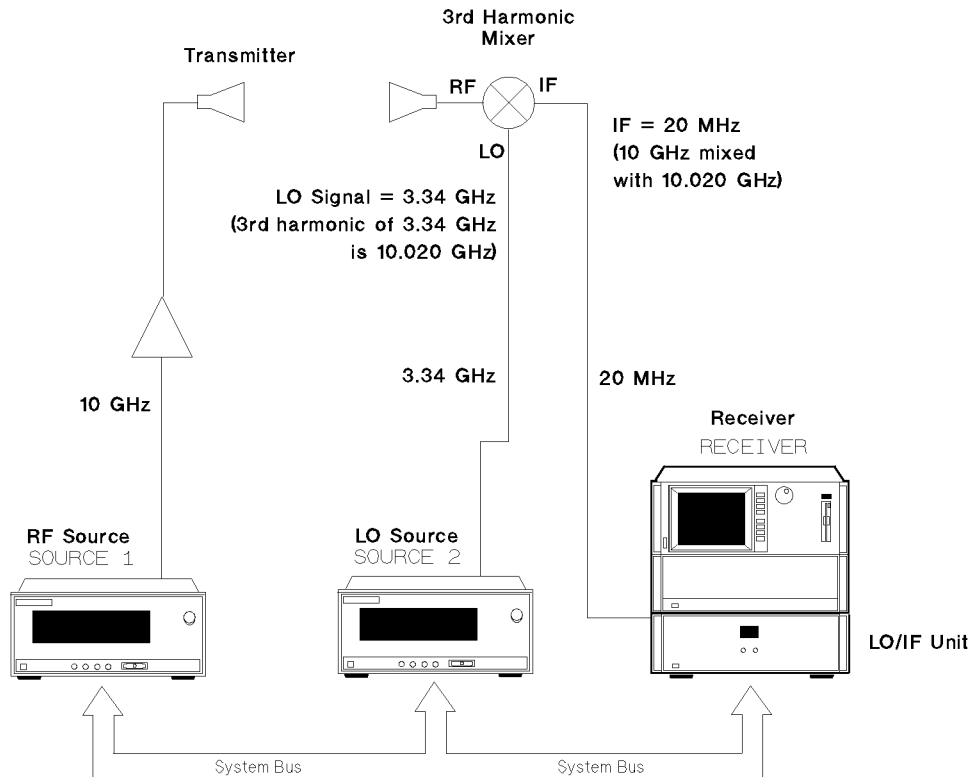
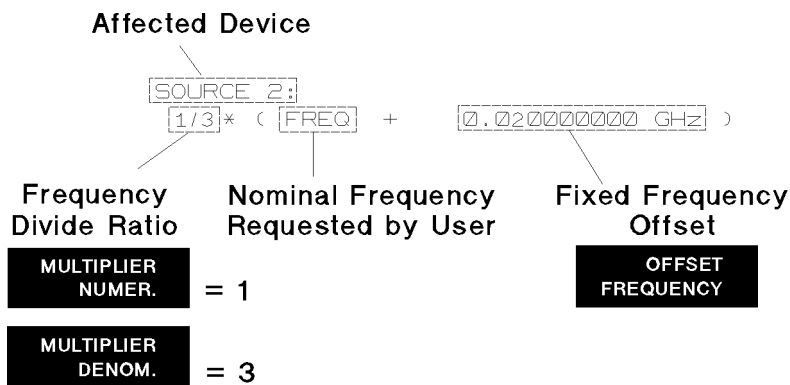

Figure 17-5. Actual LO Frequency Required by a Harmonic Mixer
Figure 17-7. Source 2 Modified for 3rd Harmonic Mixer System
Many measurement systems require remote mixers, and therefore require an LO source. Such a system is shown in Figure 17-5. The receiver controls all aspects of RF and LO source frequencies. In setups that use multiple sources, the Multiple Source Menu allows the receiver to properly manage these frequencies.
- The LO source must supply the appropriate LO signal to the mixer. The mixer will use the third harmonic of the LO signal. The receiver must compensate by setting the LO source frequency to be 1/3 of the needed frequency. The formula shown in Figure 17-7 would be appropriate for this situation.
Look at the SOURCE 2 line. Like the other two lines, this one is accompanied by a formula. Refer to Figure 17-7 and Figure 17-5.
<code>MULTIPLIER NUMER.</code>	As shown in Figure 17-7, the frequency multiplier is entered as a fraction x/y where x is the numerator and y is the denominator. This softkey allows you to enter the numerator, which is 1 in almost all applications. Terminate this entry with <code>(x1)</code> .
Note that the example setup in Figure 17-5 requires NO changes to the default `SOURCE 1` configuration.